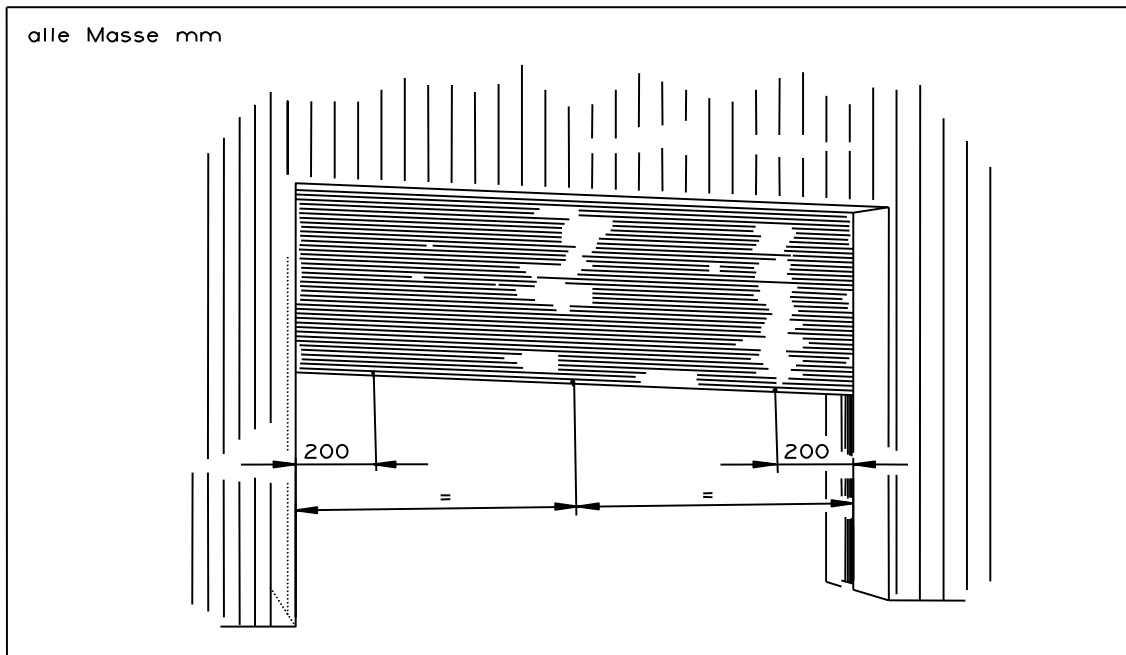

Figure 6: Measuring points at the leaf of a lifting door and in the door space.
- in the middle of the door space, as described in figure 6 below: